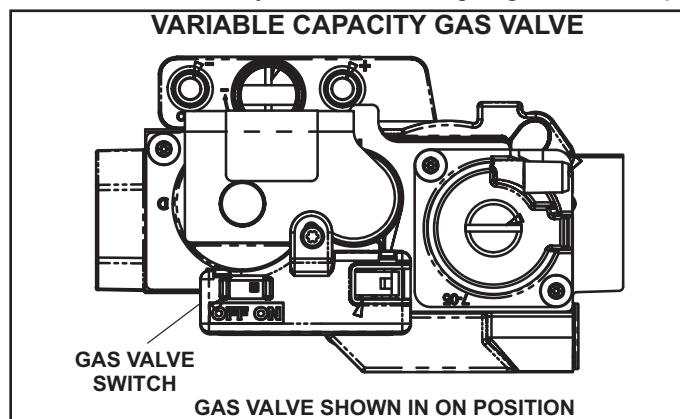

FIGURE 2
Operating the Gas Valve (Figure 2)
- 6 - Move the gas valve switch to the **OFF** position figure 2.
- 8 - Move gas valve switch to ON position. See figure 2.